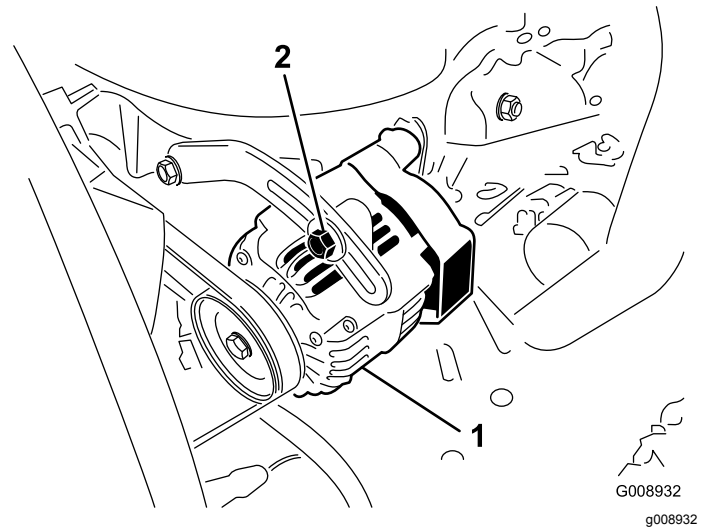

Figure 46
2. If the deflection is not 10 mm (3/8 inch), loosen the alternator mounting bolts (Figure 46).